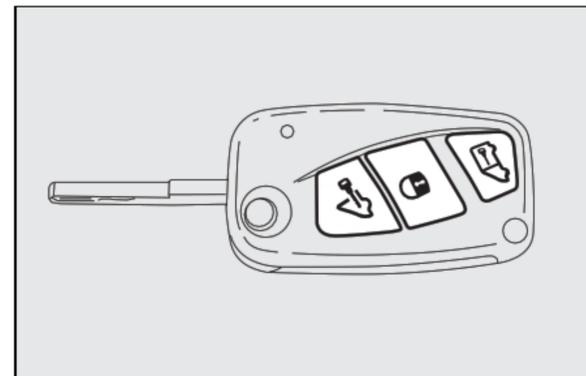
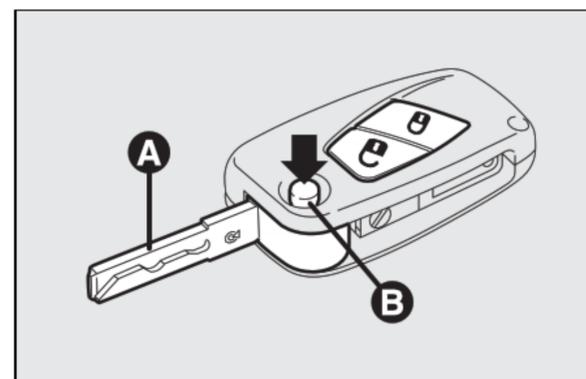
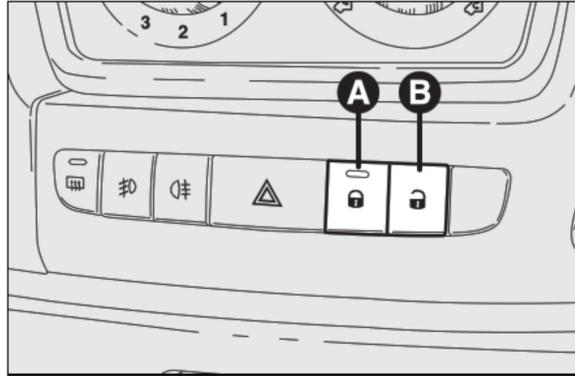

fig. 87
fig. 88
fig. 90
With the doors closed, press the button  on the remote control **fig. 87** or fit and turn clockwise the metal insert into the driver's door lock.
Door locking is only possible if all the doors are closed. Opening one or more doors by pressing the button  on the remote control **fig. 87**, will make the direction indicators and the button led **A-fig. 90** flash quickly for about 3 seconds.
With this function active, buttons **A** and **B fig. 90** are disabled.
Pressing twice briefly the button  on the remote control **fig. 87** will engage the dead lock device (see paragraph "Dead lock device").
Briefly press button  **fig. 87** or  **fig. 88**, according to versions, to obtain remote door unlocking, timed ceiling light turning on, directions indicator double
Press button **A-fig. 90** to lock and press button **B** to unlock the doors. When doors are locked the button led **A** is on and pressing the button **B** will obtain central unlocking of the doors and turning off of the led. When doors are unlocked, the button led is off and pressing the button will obtain central locking of the doors. Door locking is activated only if all the doors are perfectly closed.
it will not be possible to unlock the doors by pressing button **A-fig. 90**.
- locking/unlocking buttons **A-B fig. 90**; thus hindering doors opening from inside the passenger's compartment in case of attempt to break-into (e.g.: window breaking).
The dead lock device is automatically activated on every door when pressing twice briefly the remote control button , **fig. 87**.
Device activation is indicated by 3 flashing of direction indicators and flashing of the button led **A-fig. 90**.